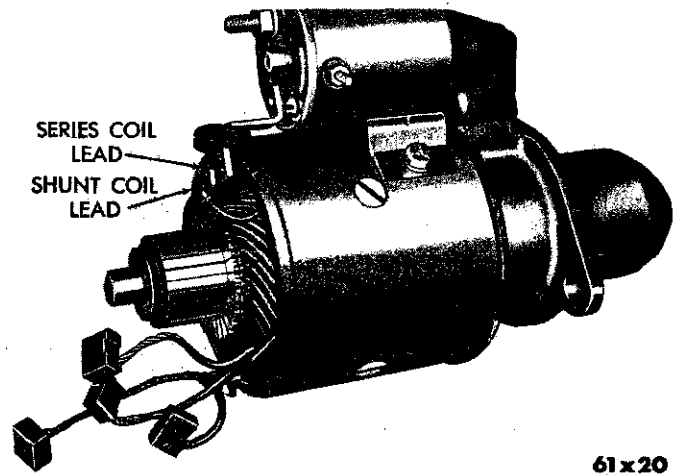

Fig. 3—Field Coil Leads Disconnected from the Solenoid Connector
connector (Fig. 3).
(1) The brushes that are worn more than $\frac{1}{2}$ the length of the new brush, or are oil-soaked, should be replaced. The brushes and springs can be replaced after removing the commutator end head and the brush plate.
(2) Lift the brushes; disengage the brushes from the brush holders and remove the brush plate.
(3) Disconnect the field lead wires at the solenoid connector (Fig. 3).